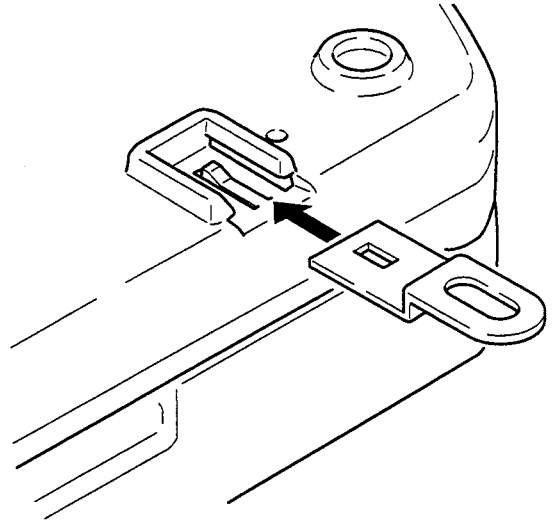

Figure 10: Mounting Bracket Installation
24. Install the four (4) mounting brackets to the underside of the "A" cartridge as shown in Figure 10.